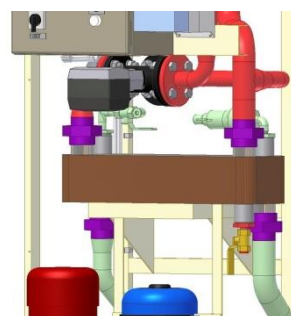

Figure 6.2-2
1. Drain both the primary circuit and the secondary circuit. The secondary circuit is drained through the V163 valve (marked yellow in Figure 6.2-2). The primary circuit is drained through the valves V301 and V302 (refer to the P&ID in Figure 4.2-2).